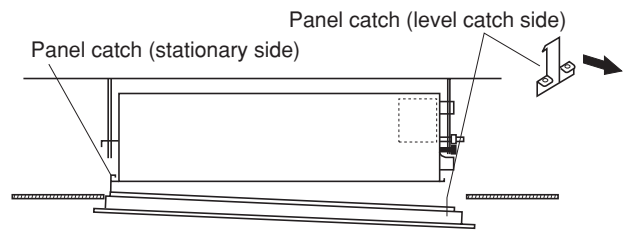

Fig. 9-8
- (1) Lift the ceiling panel and position it to align the panel catches with the catch recesses of the indoor unit.
- (2) Hook the stationary catch first and then press up on the opposite side to engage the level catch to install as shown in Fig. 9-8.
Release one side of the panel by pressing the panel catch in the direction of the arrow. (See Caution.) Completely remove the ceiling panel by disengaging the stationary catch. (Fig. 9-8)